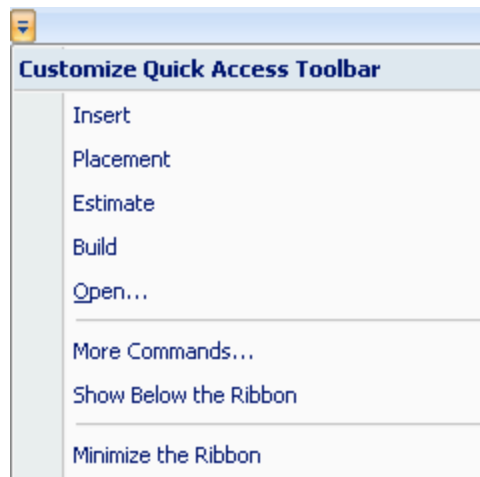

Figure 5-80 *Customize Quick Access Toolbar* menu
- From the *Customize Quick Access Toolbar* menu (see Figure 5-80 on the previous page), select *More Commands*.